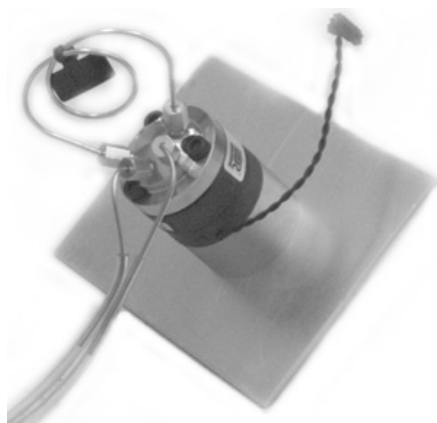

Figure 8. Injector drain tubes extended with plastic tubing to run to a waste receptacle outside the CVM.
3. Attach the connector from the valve, shown in Figure 8, to the start input of one of the modules, via one of the two-pin connectors of the cable assembly emerging from behind and to the left of the CVM mounting plate.